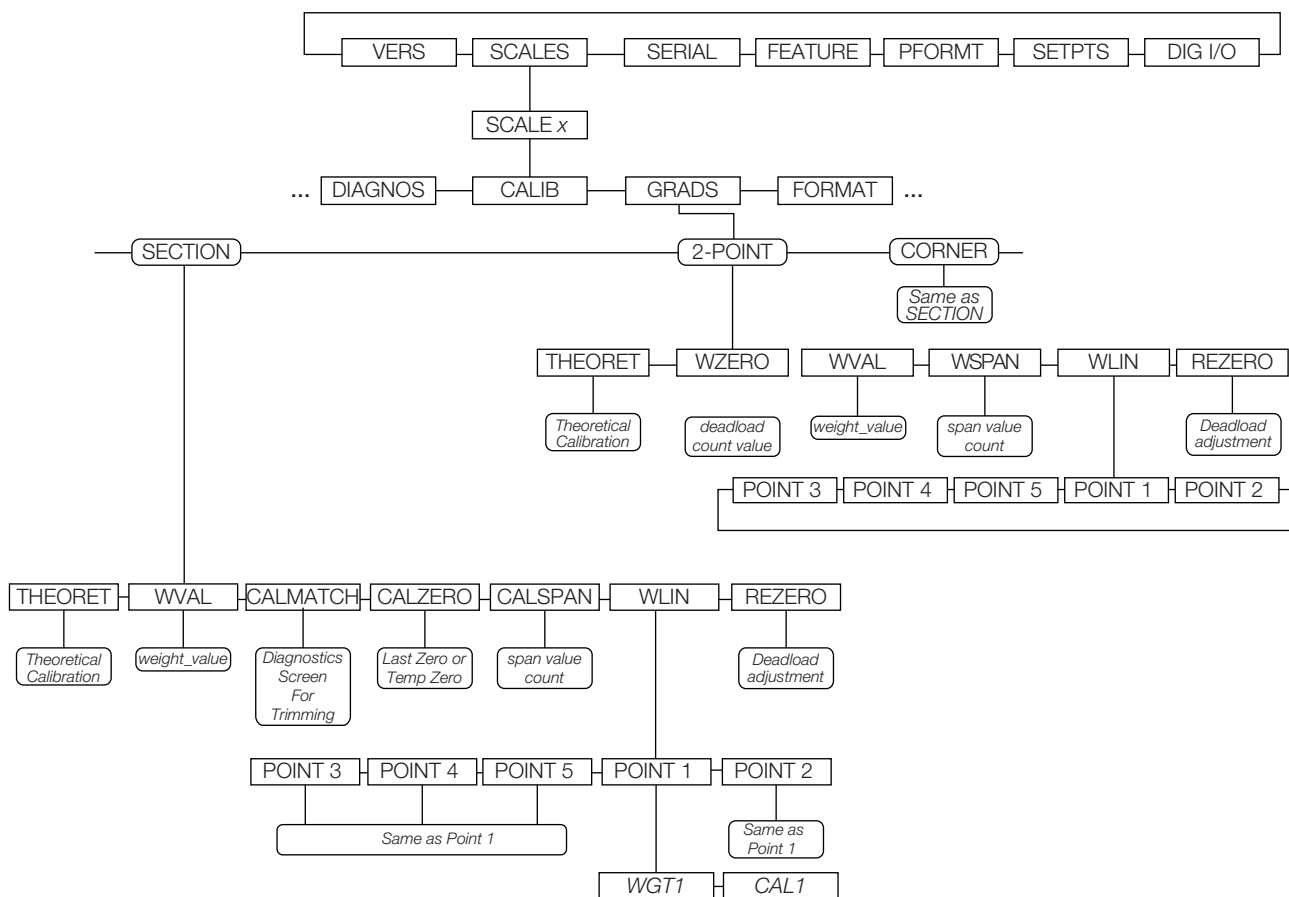

Figure 4-8. 920i Calibration Submenu
1. Ensure the scale is empty and navigate to the **Theoretical Calibration** parameter (Figure 4-8 on page 63).